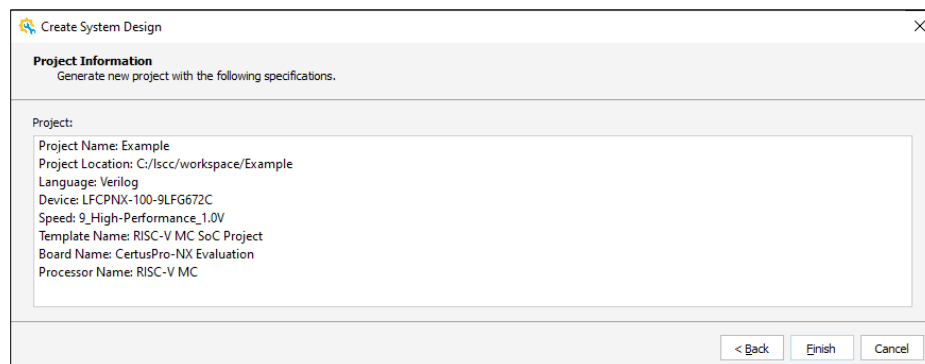

Figure 2.10. Project Information Wizard
- Click **Next**. The Project Information wizard opens. Check and confirm the project information (Figure 2.10).